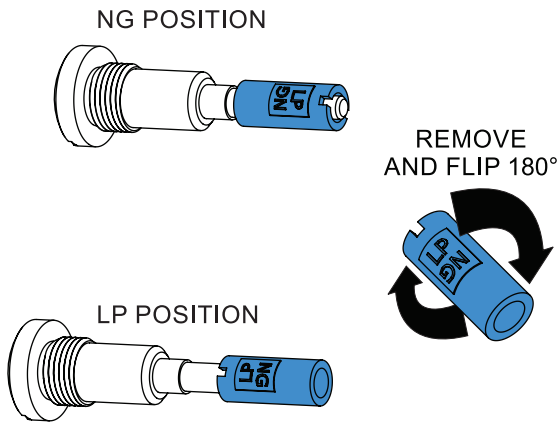

Figure 2
4. Reset the Pressure Regulator to the Propane position as shown in **Figure 2** and reinstall into Gas Valve.